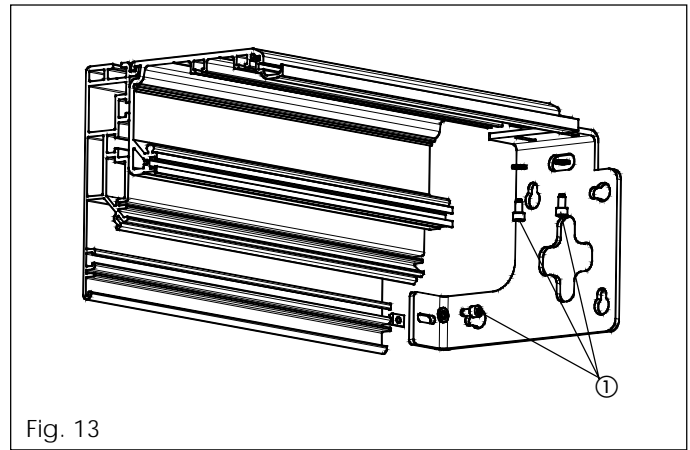

Fig. 13
- Position the small plates in their seats and secure the side plates with the three M6 fixing screws (fig. 13 ref. ①).